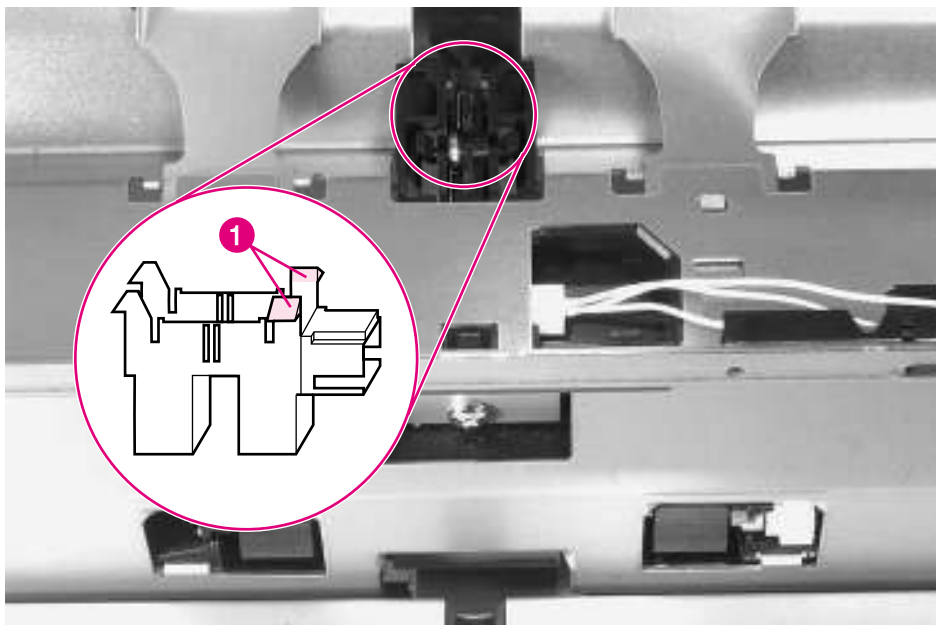

Figure 6-59 Paper Input Unit Sensor (PS2)
- 3 Release the retaining tabs (figure 6-59, callout 1) on the right end of the sensor, and rotate the sensor down to free the tabs on the left end.